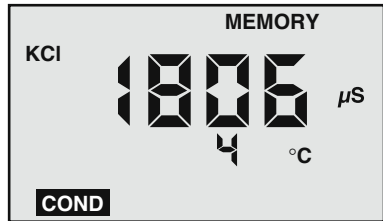

Figure 6
2. “**MEMORY**” will appear and the temperature display will be momentarily replaced by a number (1-20) showing the position of the record. Figure 6 shows a reading of 1806 μS stored in memory record #4.